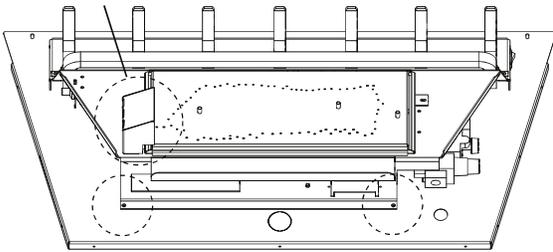
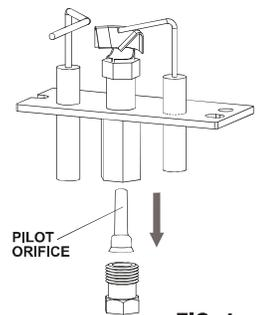

FIG. 1: Back View of Valve Train Assembly
FIG. 4
2. Remove the two screws securing the valve train assembly in place (**Fig. 1**). Lift the assembly up and unplug the power adapter from the control module before lifting assembly out of the appliance .
7. Remove the two (2) screws securing the pilot in place. (**NOTE: you will need to bend the pilot shield up to be able to remove the screws [Fig. 1]**). Using a backup wrench, remove the pilot tube from the bottom-side of the pilot (**Fig. 4**). Remove the pilot orifice and replace with the one supplied. Reattach the pilot tube and pilot assembly.